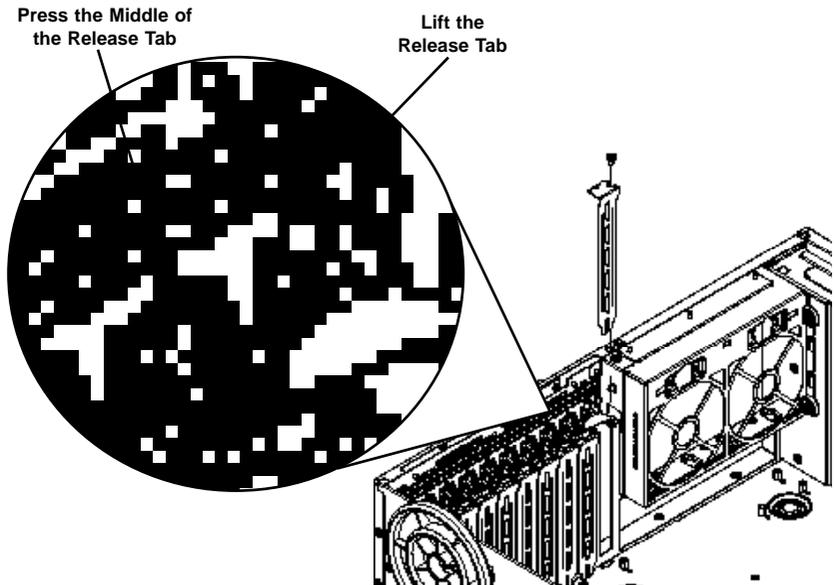

Figure 5-3. Expansion Card Port
2. Insert each DIMM module vertically into its slot. Pay attention to the notch along the bottom of the module to avoid installing incorrectly (see Figure 5-3).